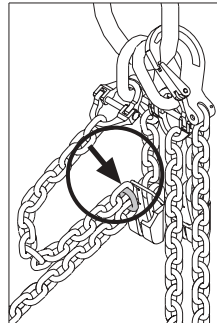

Fig. 6a
1. Hang in chain link, Fig. 6a